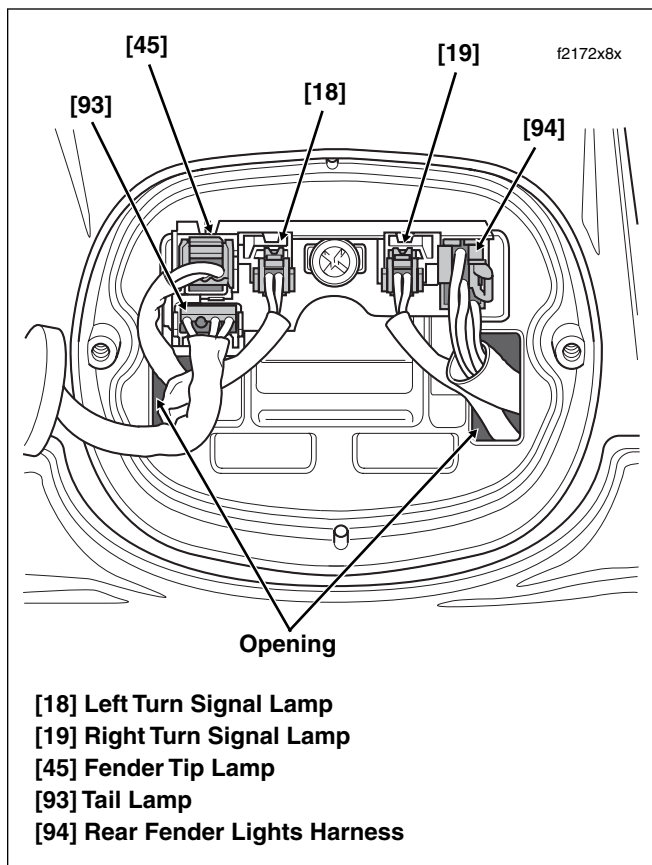
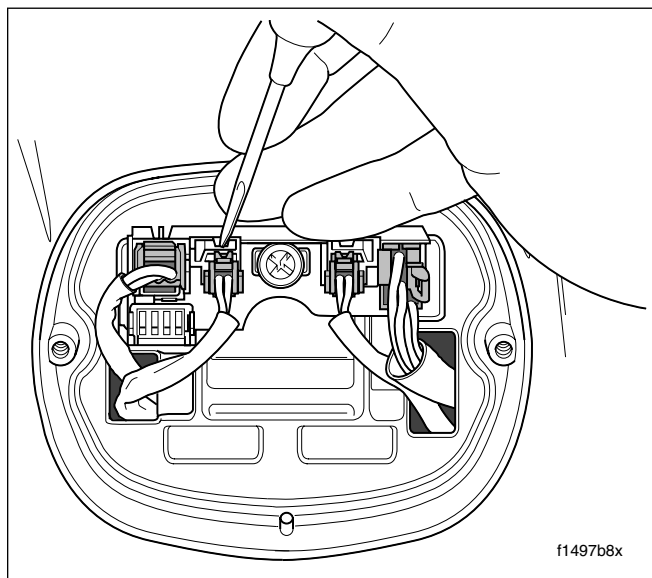

Figure 8-41. Rear Fender Lights Assembly
Figure 8-42. Use Pick Tool to Release Left Turn Signal Lamp Socket
3. Disconnect remaining connectors. See Figure 8-41. To release socket housings of left and right turn signal lamps, use a pick or small screwdriver to depress button as shown in Figure 8-42.
5. Feed socket housings through openings to inboard side of chrome base. See Figure 8-41. For best results, free the smaller socket housings first.
1. Feed socket housings through openings to outboard side of chrome base. See Figure 8-41. For best results, feed the larger socket housings first.
4. Disconnect rear fender lights connector [94], 6-place Multilock. Feed socket housing through opening to inboard side of fender. See Figure 8-41.
4. Feed socket housing of rear fender lights connector [94] through opening to outboard side of fender. Connect socket housing to pin housing/circuit board. See Figure 8-41.